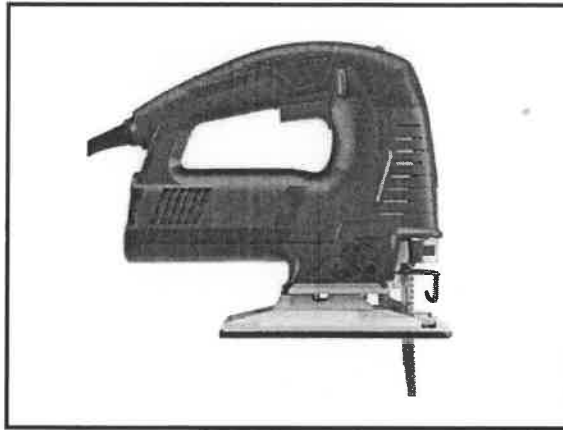

FIGURE 4.10
- 4.10 Safe handling and care is of utmost importance when using the jigsaw illustrated in FIGURE 4.10 below.